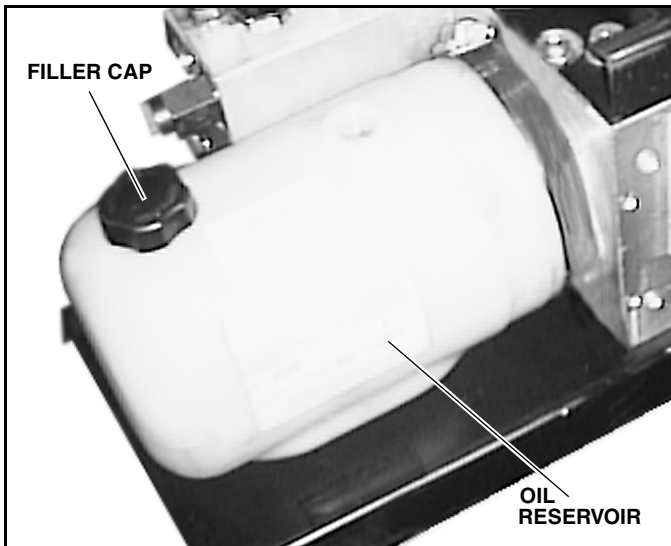

Figure 2-1
2. Remove two (2) self-tapping screws from the front of the cover and loosen two (2) cap screws from the rear. Remove the cover.
3. Remove the filler/breather cap from the reservoir. (See Figure 2-1)
5. Loosen the clamp securing the oil reservoir to the pump assembly and remove the oil reservoir being careful not to damage the filter screen while removing the oil reservoir. (See Figure 2-1)